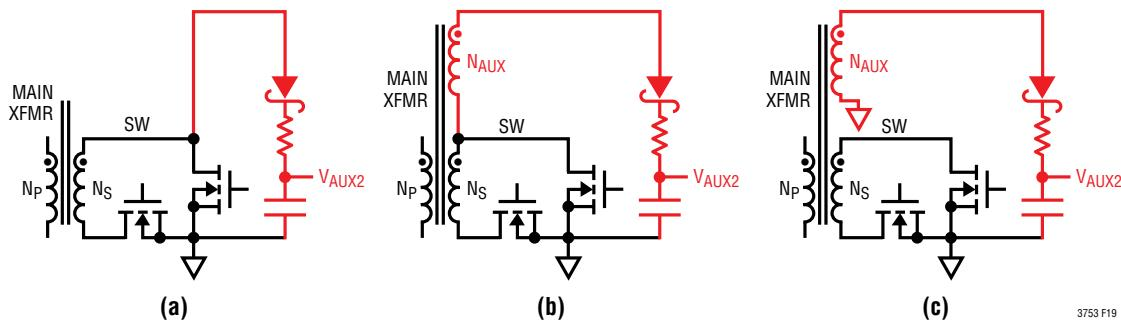

Figure 19. Peak Charge Supply: (a) Directly from SW, (b) For Low  $V_{OUT}$  Applications, (c) For High  $V_{OUT}$  Applications
- (4) Use a peak-charge circuit (Figures 19 (a), (b), (c)).